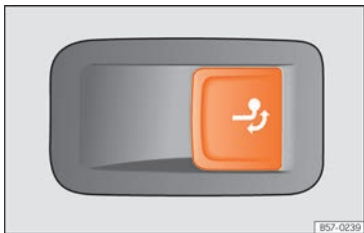

Fig. 303 On the right side of the luggage compartment: button for unlocking the tow hook.
- Pull the » » » Fig. 303 button briefly. The tow hook unlocks electrically and automatically turns outwards. The button's control lamp flashes.
- Pull the » » » Fig. 303 button briefly. The tow hook unlocks electrically.
- If the warning light on the button » » » Fig. 303 → flashes, this means that the tow hook has not been attached properly or is damaged » » » ⚠.
- If the warning lamp » » » Fig. 303 → remains on with the rear lid open, the tow hook is correctly in place both when extracted and when covered.
- Never press the » » » Fig. 303 button when there is a trailer hooked to the vehicle or when a carrier system or other accessories are mounted on the tow hook.